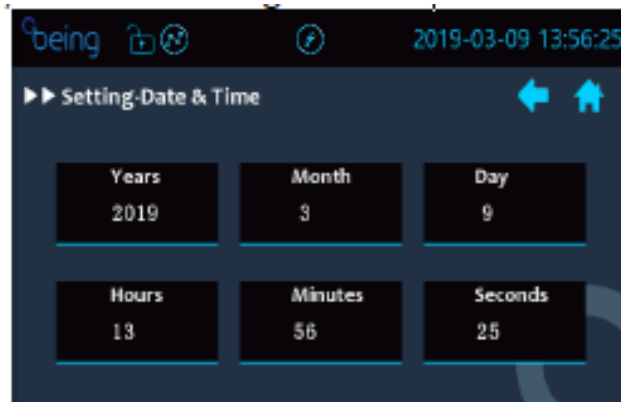

Figure 1-19.
6. Touch the time display area from the home page to enter the data/time modification page, as shown in Figure 1-19.